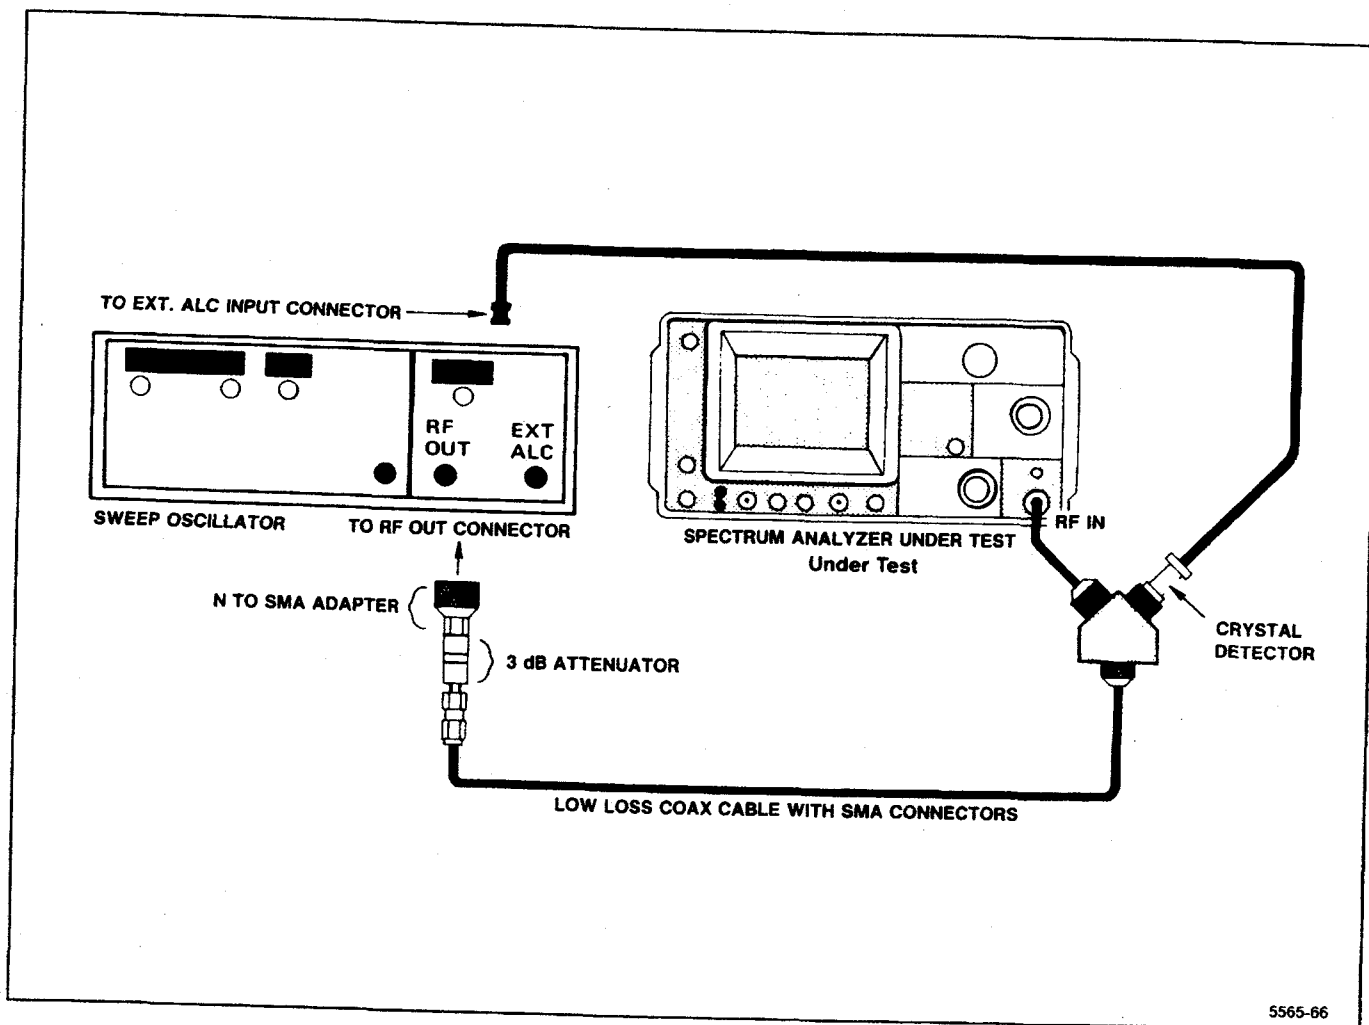

Figure 4-11. Test equipment setup for measuring 0.01 GHz to 21 GHz frequency response.
(3) Set the CAL AMPL adjustment for 5 divisions on the Spectrum Analyzer display. This is the 100 MHz reference. Activate SAVE A to save the reference.
(4) Connect the test equipment as shown in Figure 4-11.
(5) Set the sweep oscillator controls for a cw output that matches the SAVE A display (output frequency of 100 MHz and an output amplitude of approximately -20 dBm).
(6) Deactivate SAVE A. Reset the CENTER FREQUENCY to 500 MHz, and SPAN/DIV to 100 MHz, and activate MAX HOLD.
(7) Reset the sweep oscillator controls for a sweep output from 0.01 GHz—1 GHz. Enable single sweep on the sweep oscillator.
(8) Check that amplitude deviation from the 100 MHz reference does not exceed  $\pm 2.5$  dB.
(9) Make a note of the highest and lowest peaks for later comparison.
(10) Deactivate MAX HOLD, and repeat parts 6 through 10 for a CENTER FREQUENCY of 1.5 GHz (1 GHz to 1.8 GHz).
(11) Calculate the halfway point between the highest and the lowest peak from the peak data noted in parts 9 and 10.
(12) Check that swept frequency flatness is within  $\pm 1.5$  dB in Band 1.
(13) Switch the Spectrum Analyzer to Band 2 (<Blue-SHIFT> BANDA), CENTER FREQUENCY to 2.7 GHz, and SPAN/DIV to 200 MHz.
(14) Reset the sweep oscillator controls for a sweep output from 1.7 GHz—3.7 GHz. Enable single sweep on the sweep oscillator.